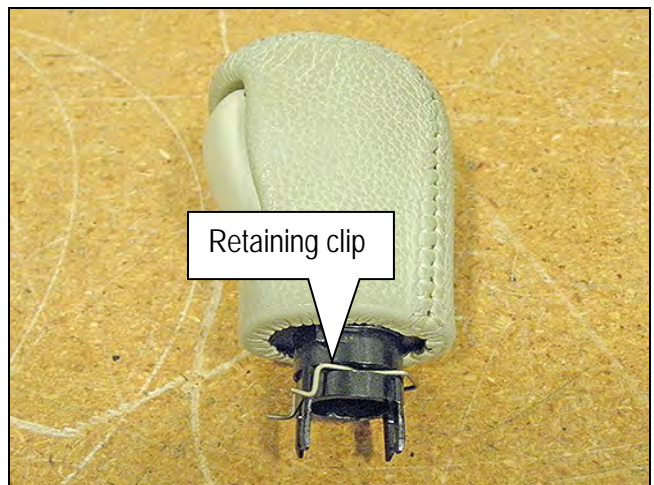

Figure 19B
c. Replace retaining clip back onto shift knob (Figure 19B).